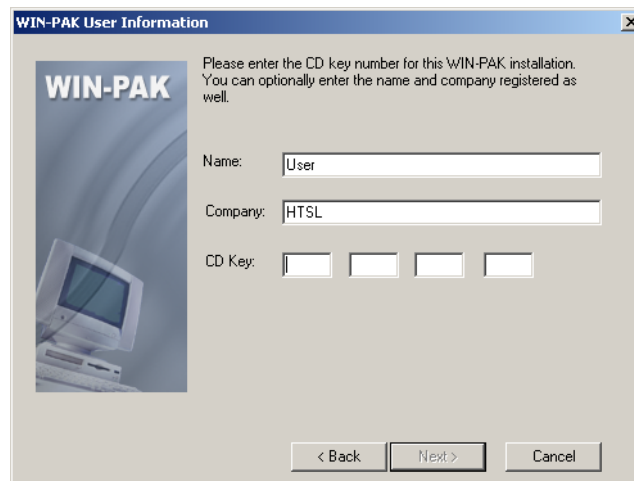

Figure 2-11 WIN-PAK User Information
5. Click **Next**. Figure 2-11 appears.